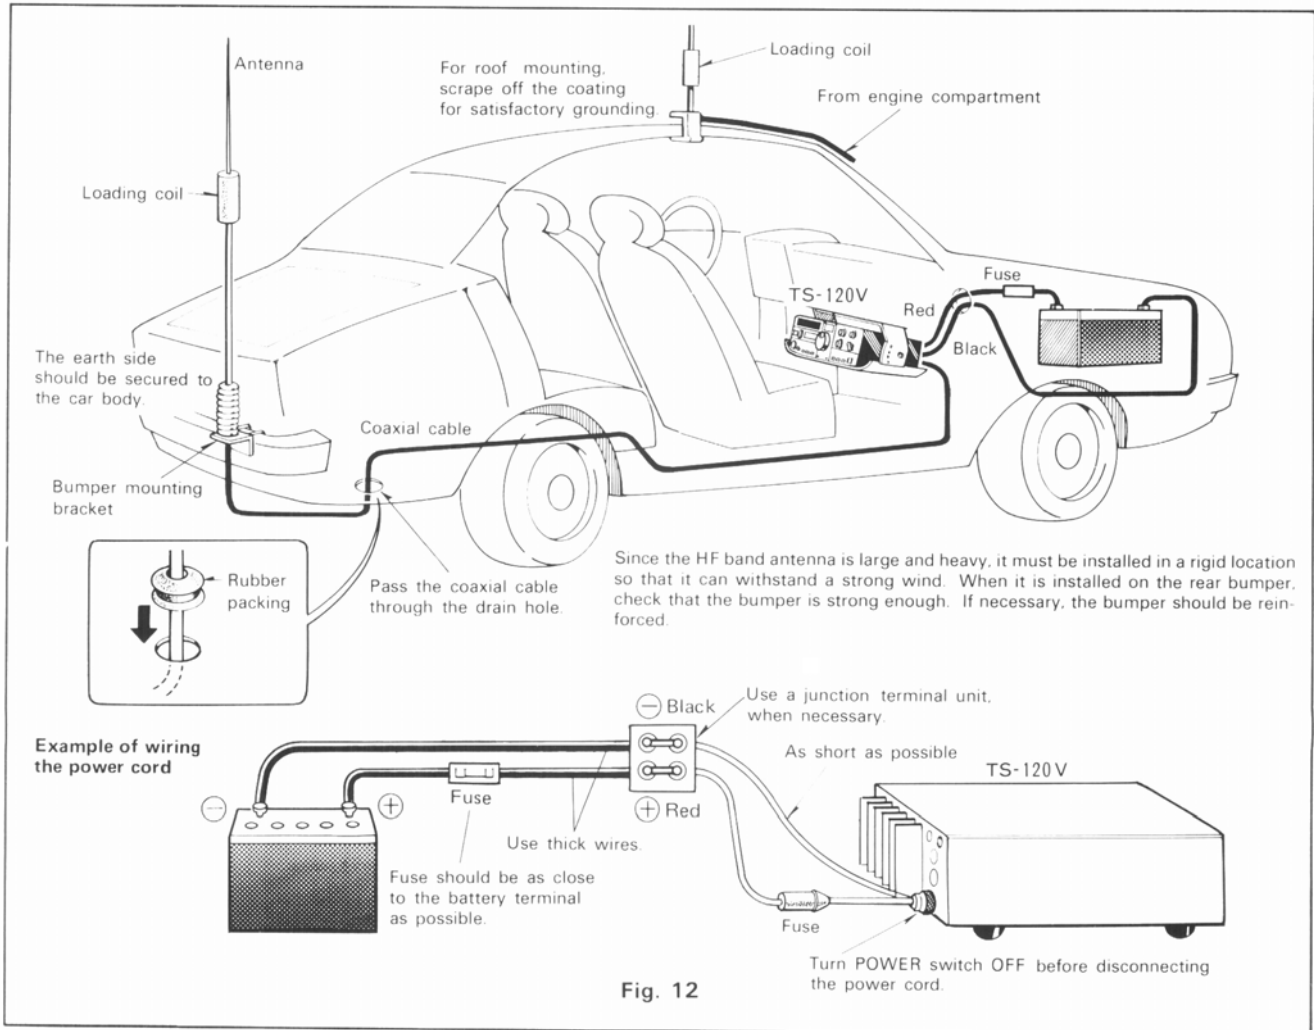

Fig. 12
Secure the TS-120V under the dashboard using the mounting bracket MB-100 (option) as shown in Fig. 12. As an alternative, use a proper mounting fixture or belt making sure that the TS-120V will not slip out of place while driving the vehicle.
An HF antenna for mobile operation is larger and heavier than a VHF antenna and must be installed on a rigid location. Antennas for use in 3.5 or 7 MHz band or all-band antennas can be installed on the bumper of vehicle as shown in Fig.12. Loading type or helical type antennas for use in 21 or 28 MHz band can be installed on the roof as in VHF type antennas.
(3) Connection of Coaxial Cable (Fig. 12)